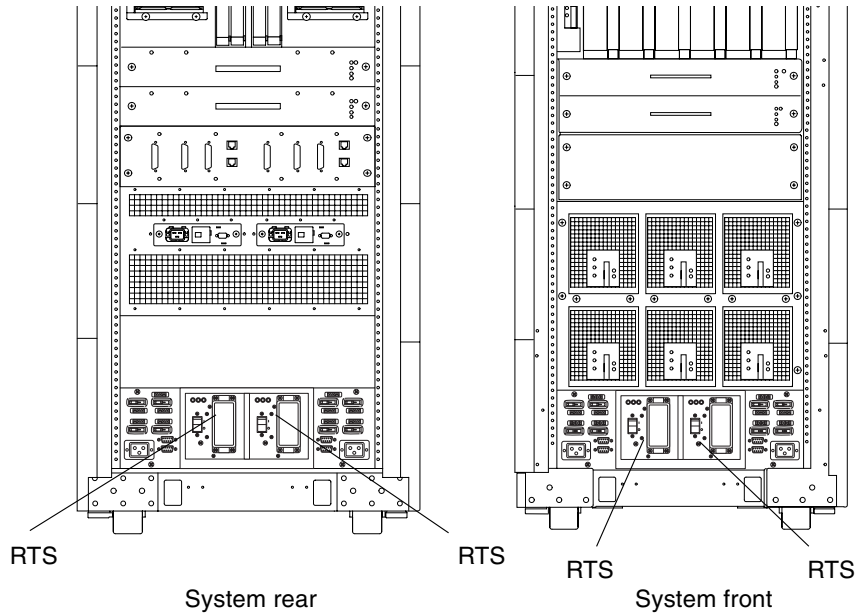
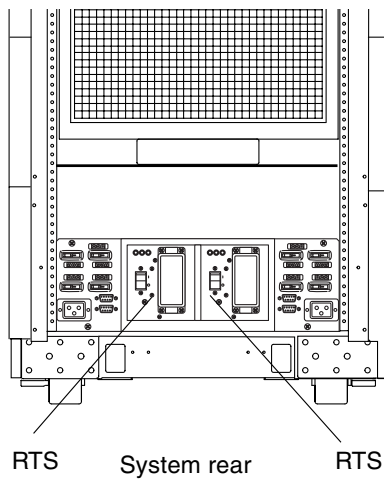

FIGURE 2-6 Redundant Transfer Switches (RTS)—Sun Fire 6800 System
FIGURE 2-7 Redundant Transfer Switches (RTS)—Sun Fire 4810 System
5. For Sun Fire 6800 system or Sun Fire 4810/4800/3800 systems mounted in a Sun Fire cabinet, turn off the redundant transfer switches (RTS) (FIGURE 2-6 and FIGURE 2-7).